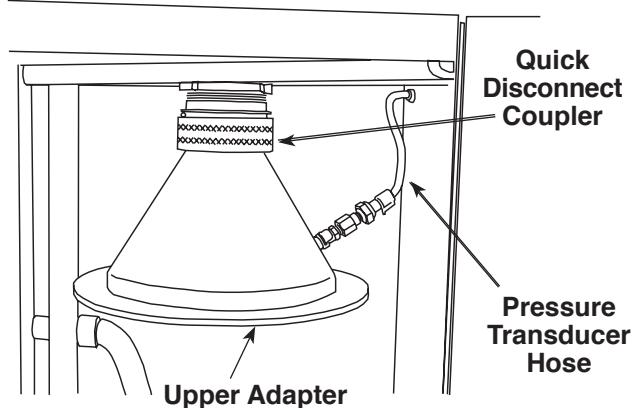

Figure 3
4. Attach the adapter cone to the quick connect coupler, positioning the cone so the pressure port is facing the pressure transducer hose. Connect the pressure transducer hose to the pressure port on the cone. See Figure 3.